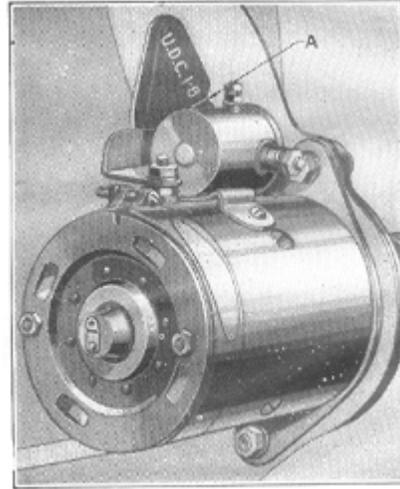

Figure 28
**BREAKER POINT ADJUSTMENT**—The correct breaker point clearance is .017". This is adjusted by removing the distributor cap and cranking the engine until the fiber block on the breaker arm is on the highest point of cam (A). Then loosen lock nut (B) and turn adjusting screw (C) until the proper gap is obtained. Tighten lock nut (B) and re-check setting. Breaker points should be clean, smooth, and make full contact.
**IGNITION TIMING**—To check, remove spark plug from No. 1 (front cylinder) and place a finger over the spark plug hole. Crank the engine by pressing the small button on the rear end of the starting motor solenoid in quick successive movements after removing the knurled cap. As air pressure against the finger is felt, it indicates that the piston is coming up on the compression stroke. Crank the engine slowly now, until the U.D.C. 1-8/mark on the front face of the flywheel lines up with the pointer on the engine rear support plate. See Fig. 28.